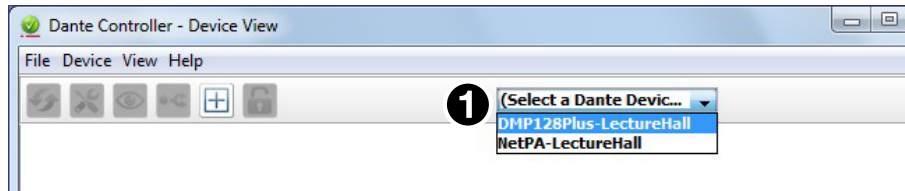

Figure 31. Selecting a Dante Device
2. The Dante Controller - Device View dialog box opens. Select your device from the (Select a Dante Device) drop-down list (see figure 31, ❶).